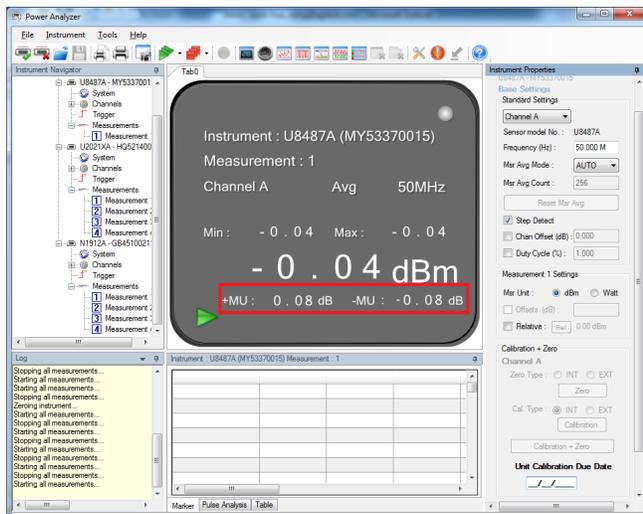

Figure 9. Real-time measurement uncertainty display of the Keysight U8480 Series thermocouple power sensor
Measurement uncertainty (MU) analysis is normally a very tedious, time-consuming process involving a lot of manual calculations. It is even more complex and tedious when a user is measuring over a range of frequencies or power levels. The user has to calculate the MU for each of these points individually. The Keysight U8480 Series is the world's first power sensor that computes these values automatically in real time and at any given point, eliminating manual calculations, simplifying work, and shortening test time (see Figure 9). The overall measurement uncertainty is also improved since the calculation uses characterized data in the sensor's memory, which is unique to each sensor, instead of using the specifications data which normally includes a guard band to allow for variations between production batches. The RTMU display is enabled on the Keysight N1918A software, or using new SCPI commands, to turn on ("SENS:MUNC:STAT ON") and fetch the results ("FETC:MUNC?").